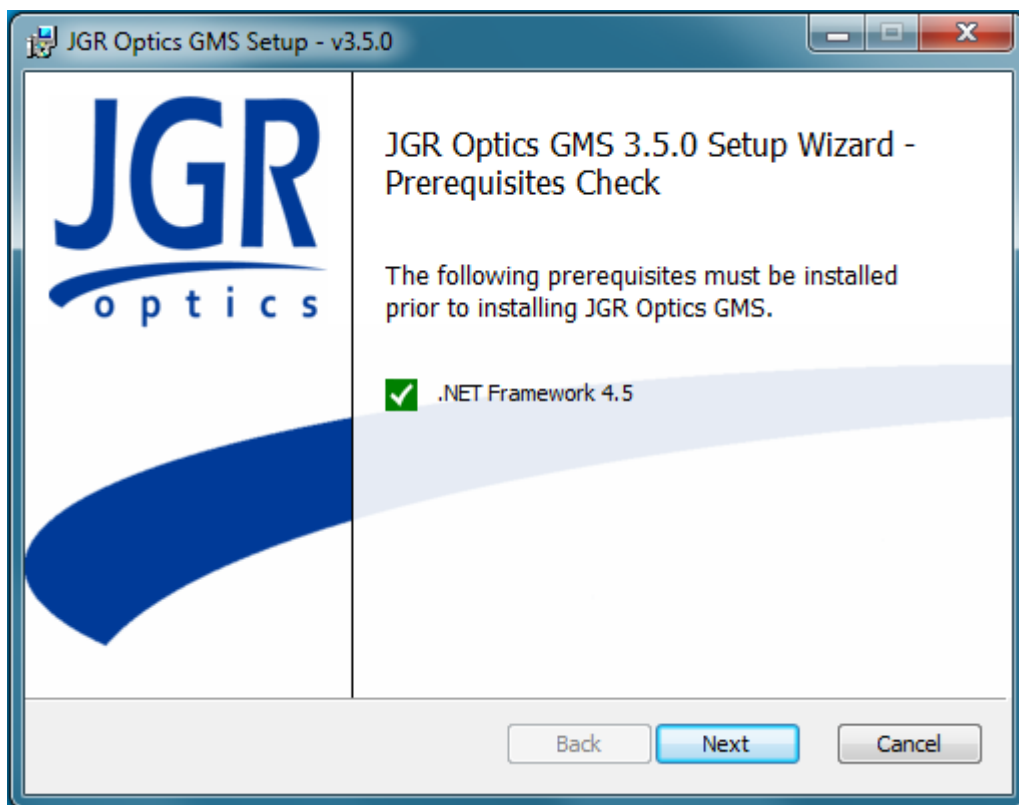

Figure 3.1: Opening window of installation.
- Ensure that all prerequisites are installed on the system (Fig. 3.1).